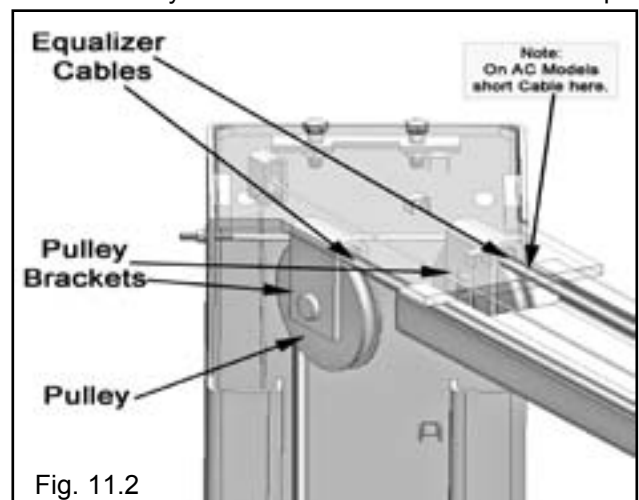

Fig. 11.2
3. Route the Cables through the Pulley Brackets and reinstall the Pulleys. (See Fig. 11.2)